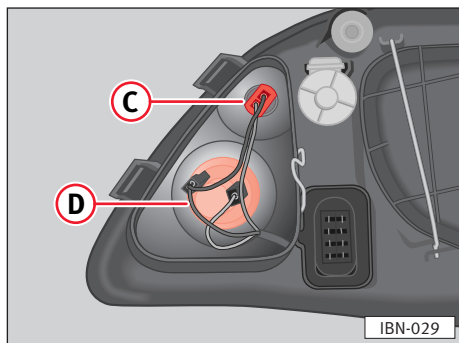

Fig. 151
- Pull on cables to free bulb carrier from its housing ⇒ fig. 151 C.